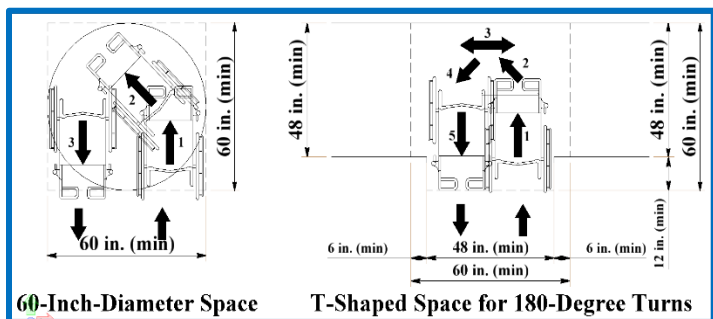

Figure 12 Turning Space (ADAAG)
- If the path requires a 180-degree turn, the turning pad must be at least 60 inches deep. (See Figure 12.)